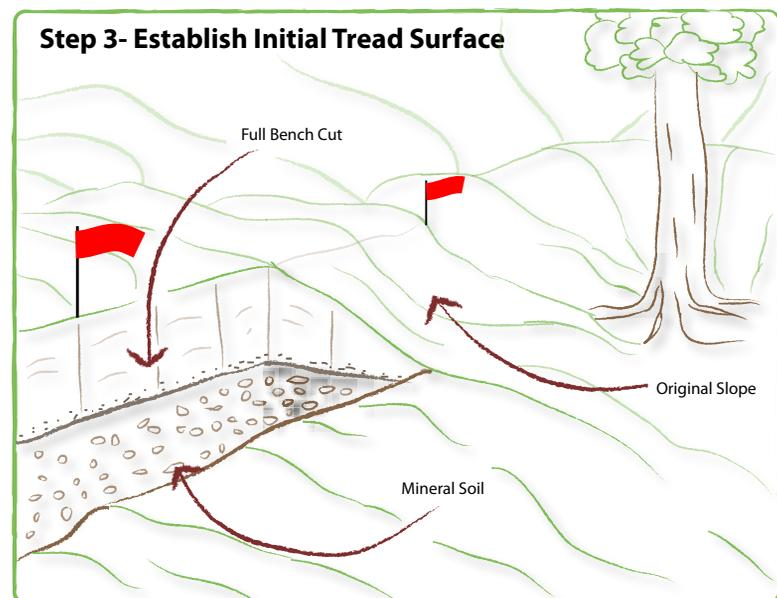

Figure 10: Establishing initial tread means removing organic matter from the surface down to original soil.
Grade reversals take advantage of natural dips in the terrain (Figure 10). The grade of the trail is reversed for about 10 to 15 feet, then “rolled” back over to resume the descent. Grade reversals should be placed frequently; about every 50 feet. The trail user’s experience is enhanced by providing an up-and-down motion as the trail curves up and around large trees or winds around boulders. Users also enjoy the brief respite from a constant grade in the climb from a streambed to a ridge top.
- After cutting a shallow line, start digging and grubbing to establish a rough trail bench and tread (Figure 10). While working on the tread, it is important that the crew not walk on the critical edge in order to protect the integrity of the trail surface.